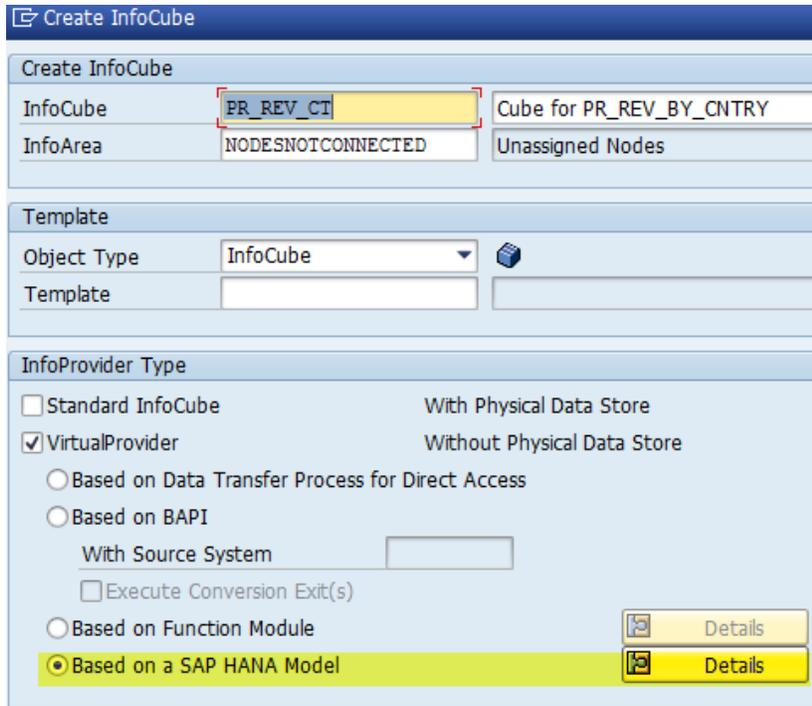
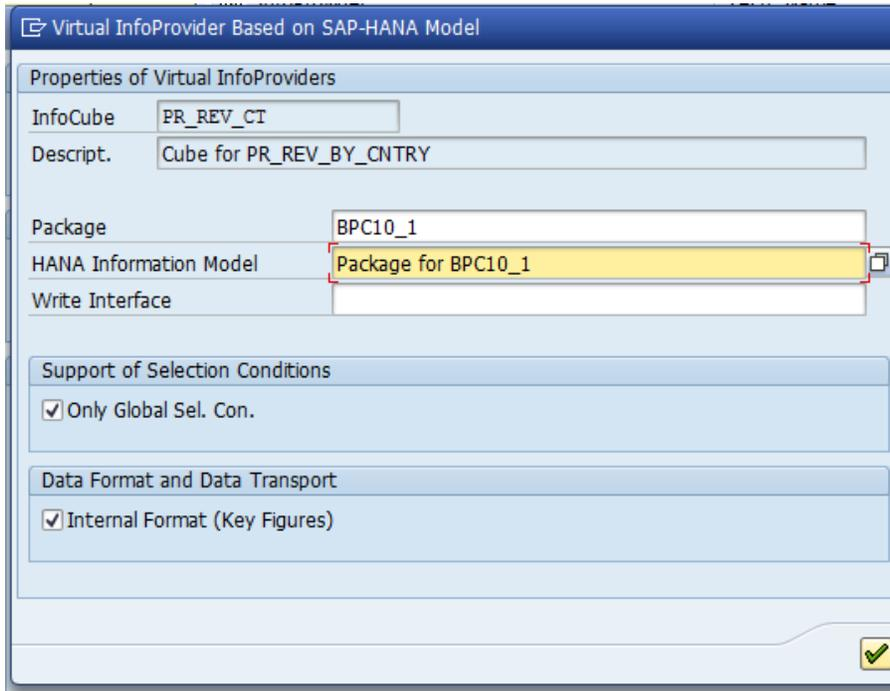

Figure 25 – Link virtual infoprovider to Hana model
Figure 26 – Enter Hana package
2.4 **Link to Hana model** – As shown in figure 25 below, select the option 'Based on SAP Hana model'.
2.5 **Select the package** – Click on the 'Details' button shown in figure 25 and enter the package created in step 1.7 as shown in figure 26. Click the green check box to create the virtual infoprovider. This will create the virtual infoprovider and you can enter the infoobjects for it in the next step.